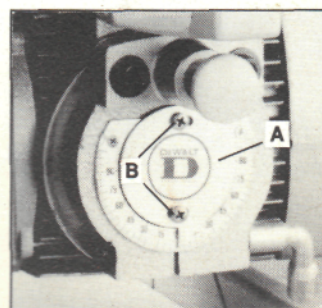

Fig. 15
- (i) Remove bevel pointer disc (A) by removing the two screws (B) in Fig. 15 and re-engage the bevel latch.